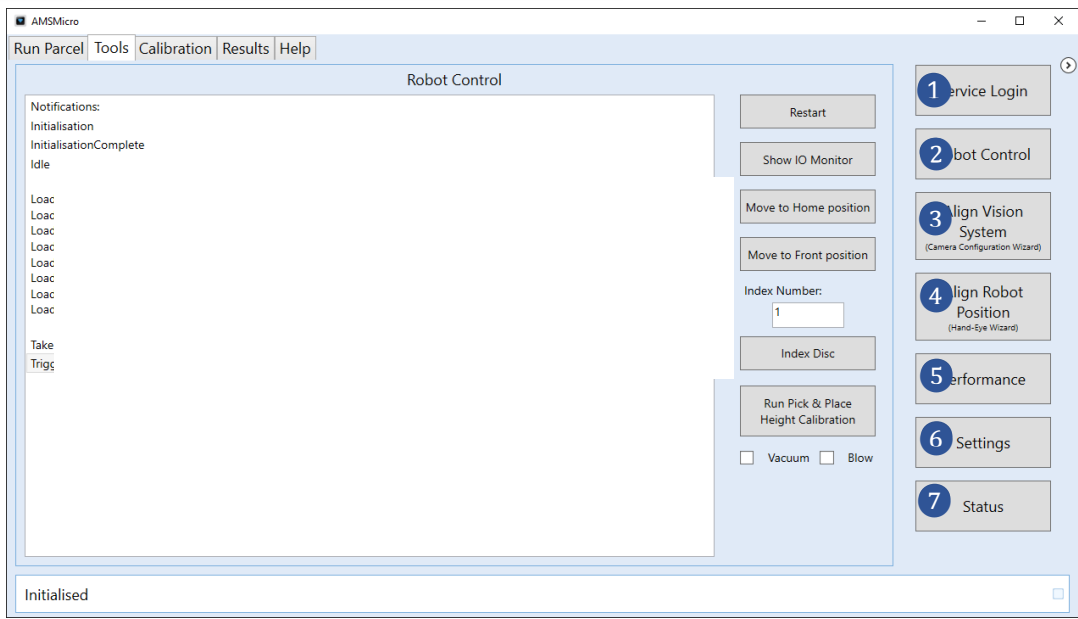

Figure 39 – Tools Tab
The Tools tab allows access to control, support, performance, and maintenance functions. Within this tab a number of different views may be selected depending on the desired task. These views are shown as ① to ⑦ in Figure 39.